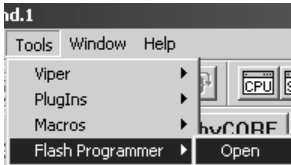

FIGURE 1 Running the flash programmer.
**Open the Flash Programmer plug-in dialog** by selecting the Flash Programmer option from the Tools menu. The Flash Programming dialog box appears (Figure 1).